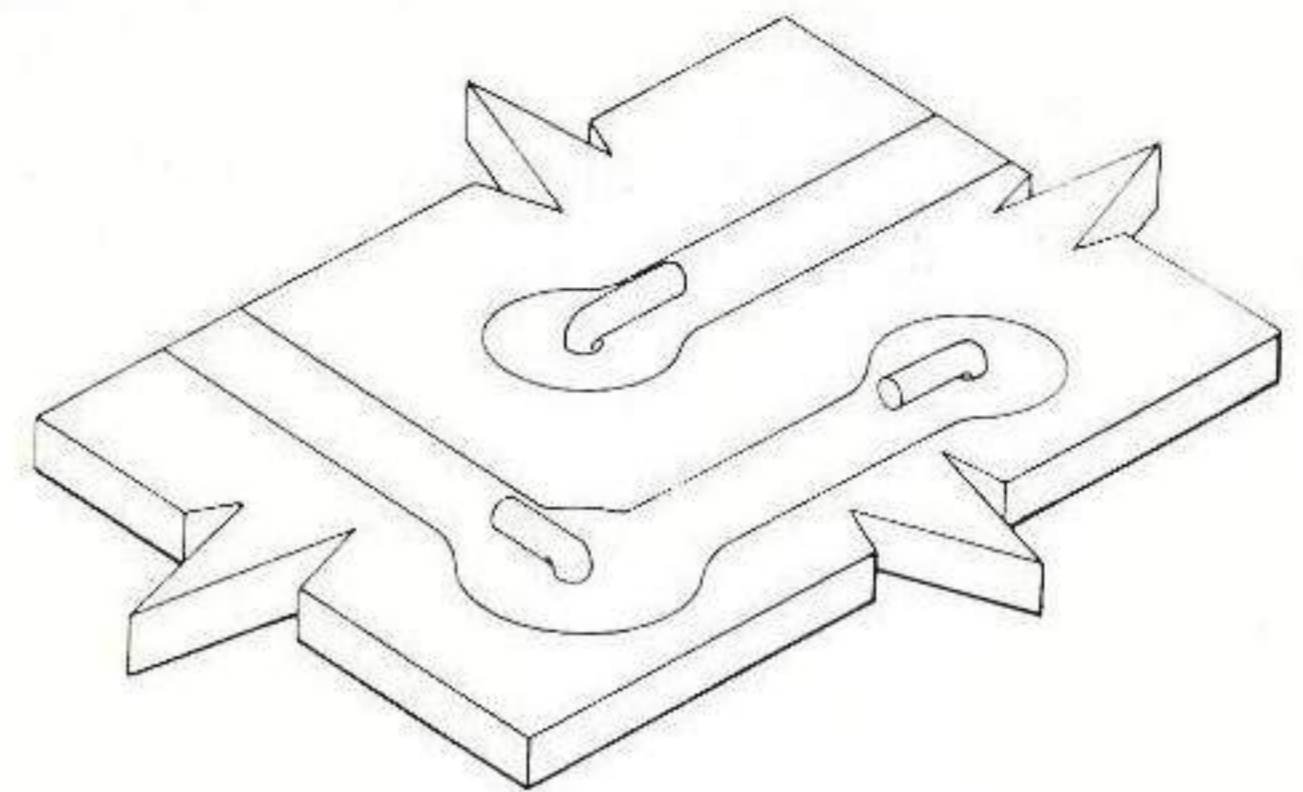

Figure 34. Direction of Pigtail Clinch
e. Component pigtails will extend through printed circuit boards a minimum of 1/16 inch to a maximum of 1/8 inch and will be clinched flush with the circuit. The bend or clinch must be in the same direction as the conductive line to which the pigtail is attached. See figure 34.